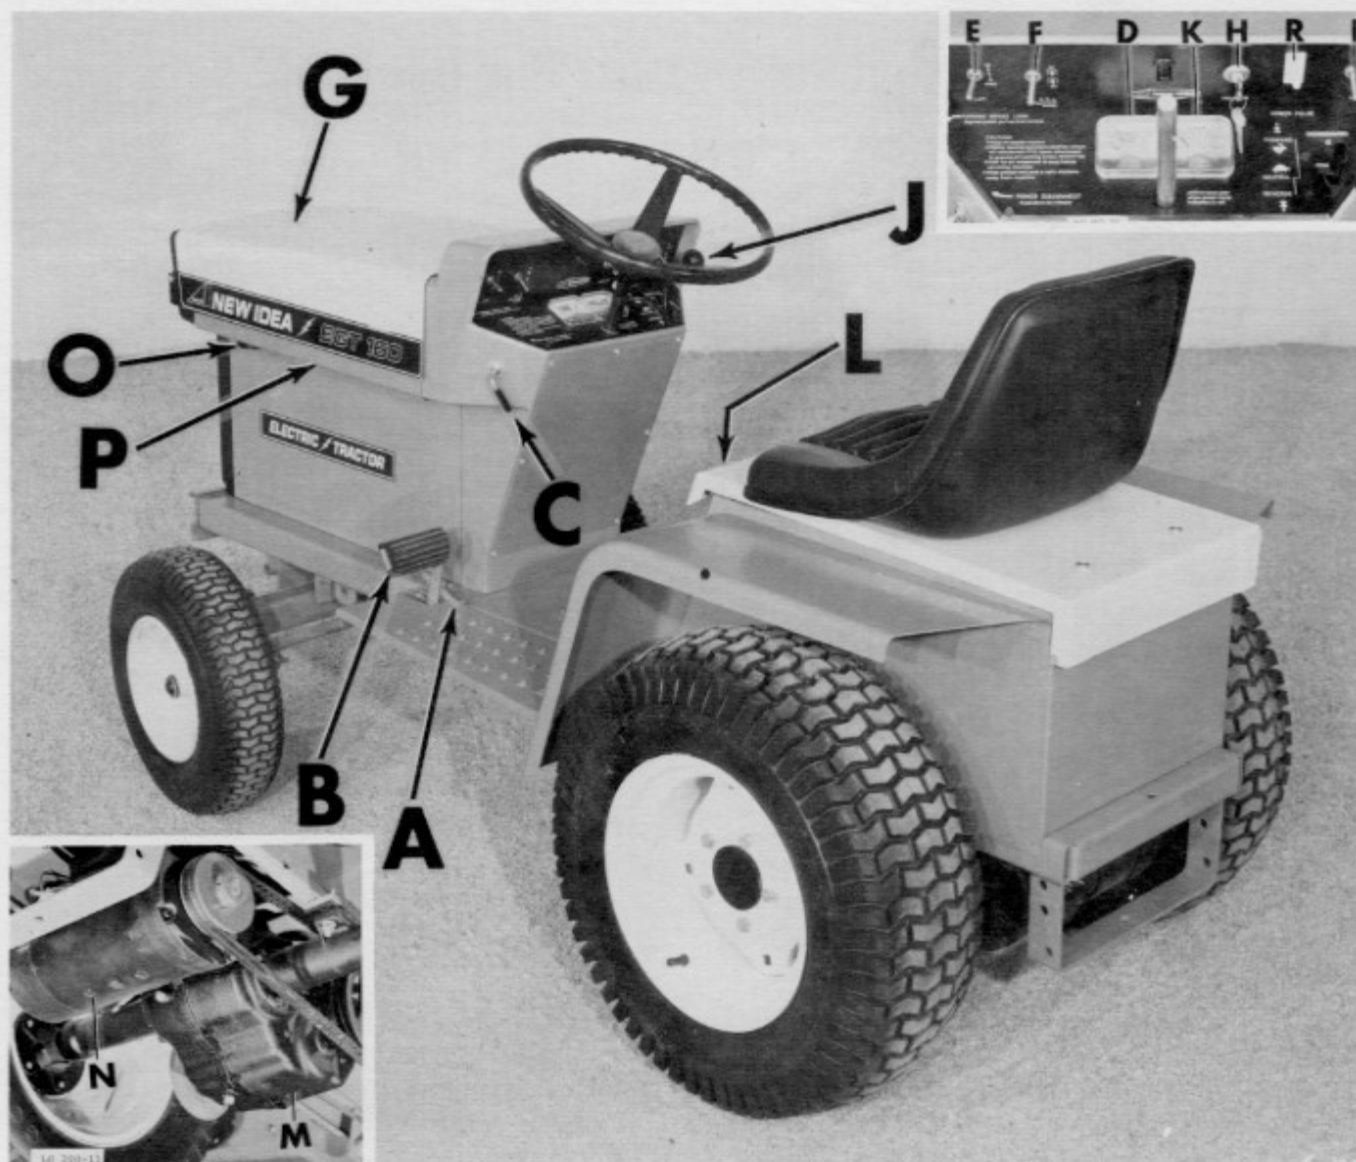

Figure 1
- FIG. 1 A. Parking Brake
- FIG. 1